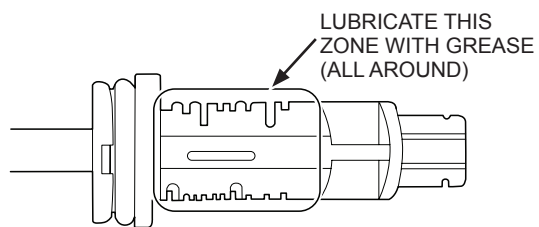

FIGURE 5
5. Insert the key into the cylinder and verify that all installed tumblers are flush with the Cylinder (L) exterior surface (Figure 5). Do not pull out the Key. If you do, the tumblers will fall out.
6. Apply grease (K) to the outer surface of the Cylinder (L) with the key still inserted, ensuring that the areas above and in between the tumblers are covered. (Refer to Figure 5).